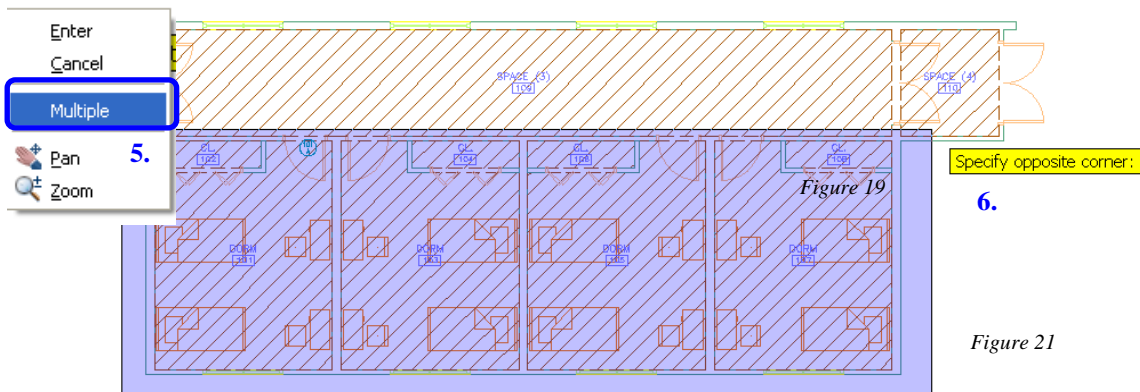

Figure 21
6. Drag a selection window around the bottom four rooms. *Figure 21*